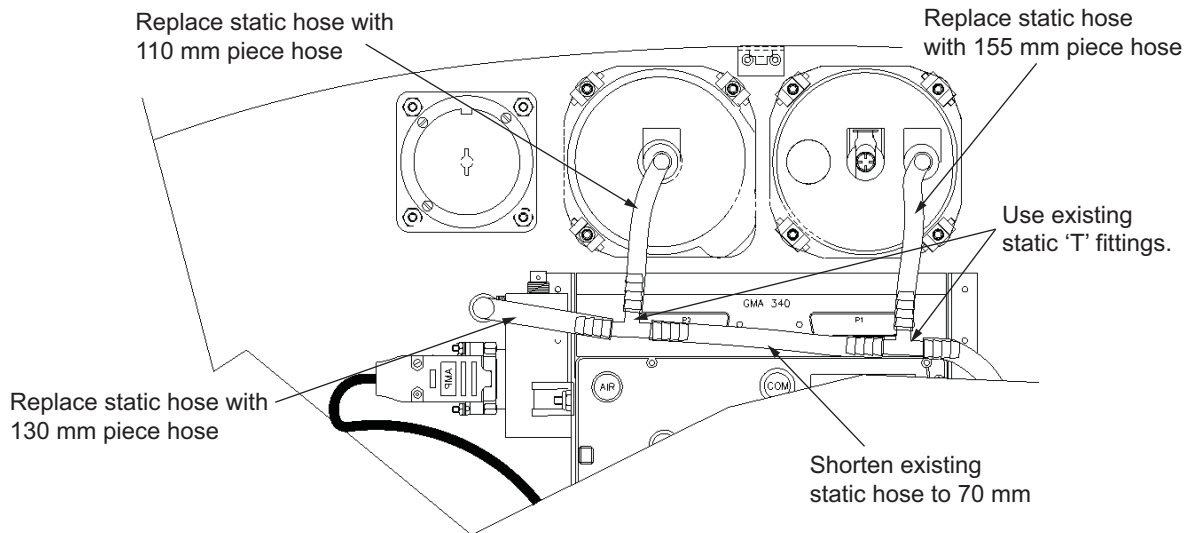

Figure 5
- 10.6.8 Replace the four static hose pieces with the supplied hose (P/N 210080) as shown. Ensure there are no low points in the static line. Refer to Figure 5.